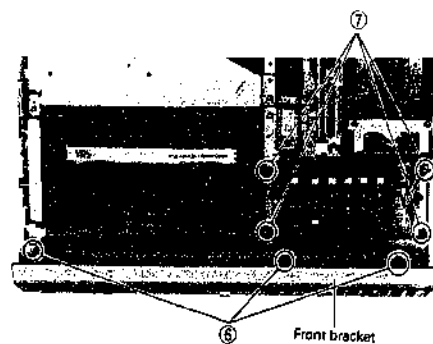

Fig. 8
⑥ 3 screws. (Fig. 8)
2) ⑦ 4 screws. (Fig. 8)